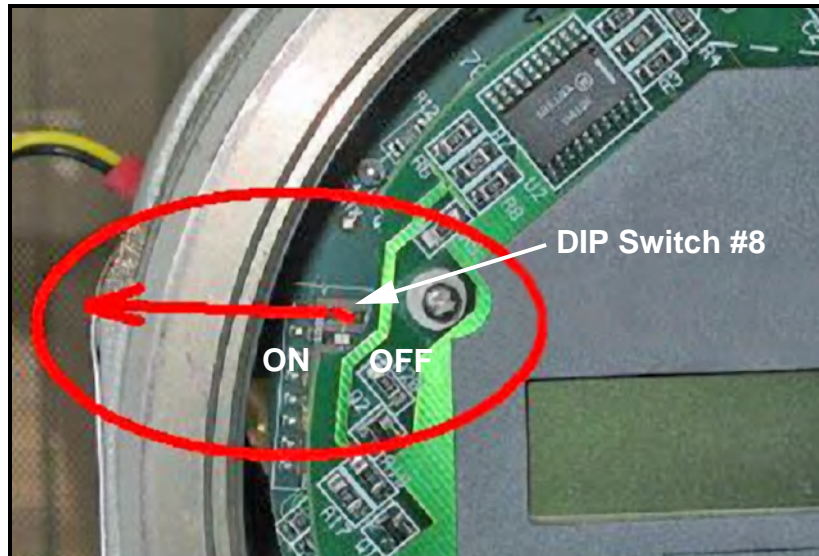

Figure 3-25: Moving DIP Switch #8 to ON
5. Use a small screwdriver to move the top (#8) switch to the ON (left) position (see Figure 3-25 below).